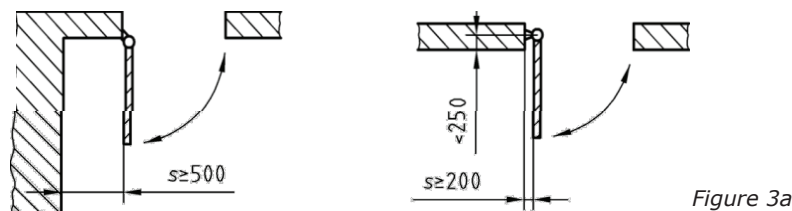

Figure 3a
- the doorset is adjusted according to the settings defined in Annex G and a sufficient safety distance is provided (see Figure 3a) or